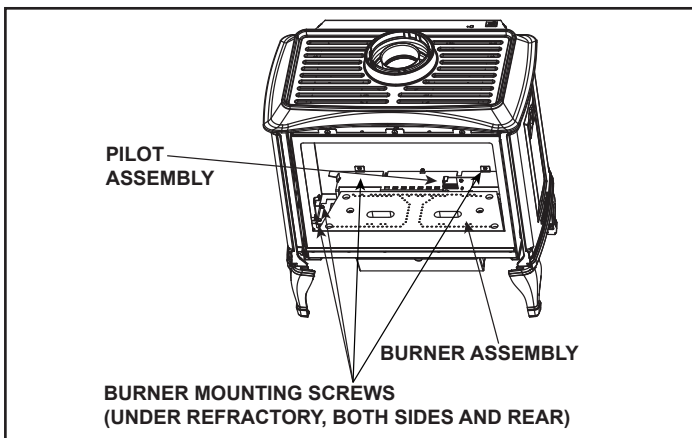

Figure 6.12 - Remove Burner
- The pilot needs to be lifted slightly to accommodate the burner removal. Using 1/4 in. bit, remove the two screws that attach the pilot to the burner. Remove the pilot shield and lift the pilot slightly until it clears the pilot mounting tabs. See Figure 6.12.
- Using a 1/4 in. bit, remove the two burner mounting screws from each side of the burner. Remove the two screws that hold the burner to the rear firebox wall. See Figure 6.12. Remove burner from appliance.